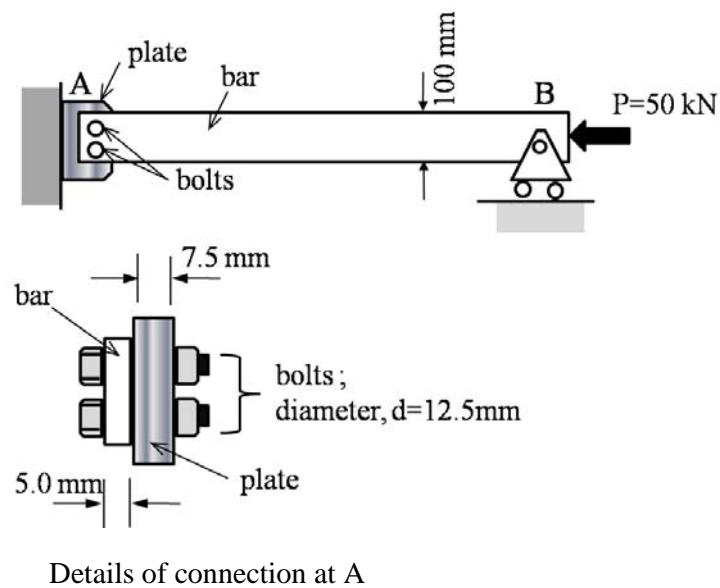

Figure 1(a)/ *Rajah 1(a)*
1. [a] For the problem of a bar being compressed by a load P as shown in **Figure 1(a)**, compute:
- [b] A rigid vertical member ADBC in **Figure 1(b)** is supported by a hinged joint at A and connected to a pair of inclined post BE by a hinged connection at B. Cross-sectional sizes of rigid vertical member ADBC and inclined post BE are $25 \text{ mm} \times 250 \text{ mm}$ and $17.5 \text{ mm} \times 200 \text{ mm}$, respectively. Two concentrated loads P_1 and P_2 act on the rigid vertical member at point C and D, respectively. Details of connections at support A, joint B and support E are also shown in the figure. Diameters of bolt used at support A, connection B and support E are 15 mm, 12.5 mm and 15 mm, respectively.